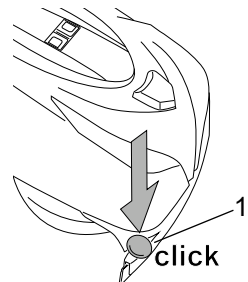

Fig.2B
- Install the bumper wheel (fig. 2B, ref. 1).